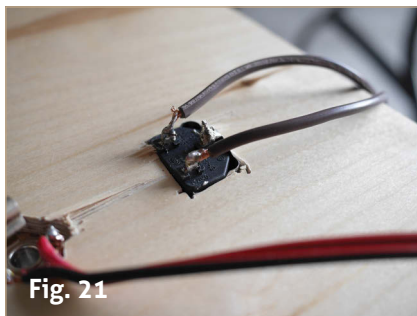

Fig. 21
Step 27. To wire the IEC jack, cut off the receptacle side of your 3' or 6' extension cord, and then separate the two wires and strip them. AC current has no polarity, so it doesn't matter which wire you solder to which terminal, as long as it's the upper two terminals, as shown in **Fig. 21**. Solder the wires to the terminals.